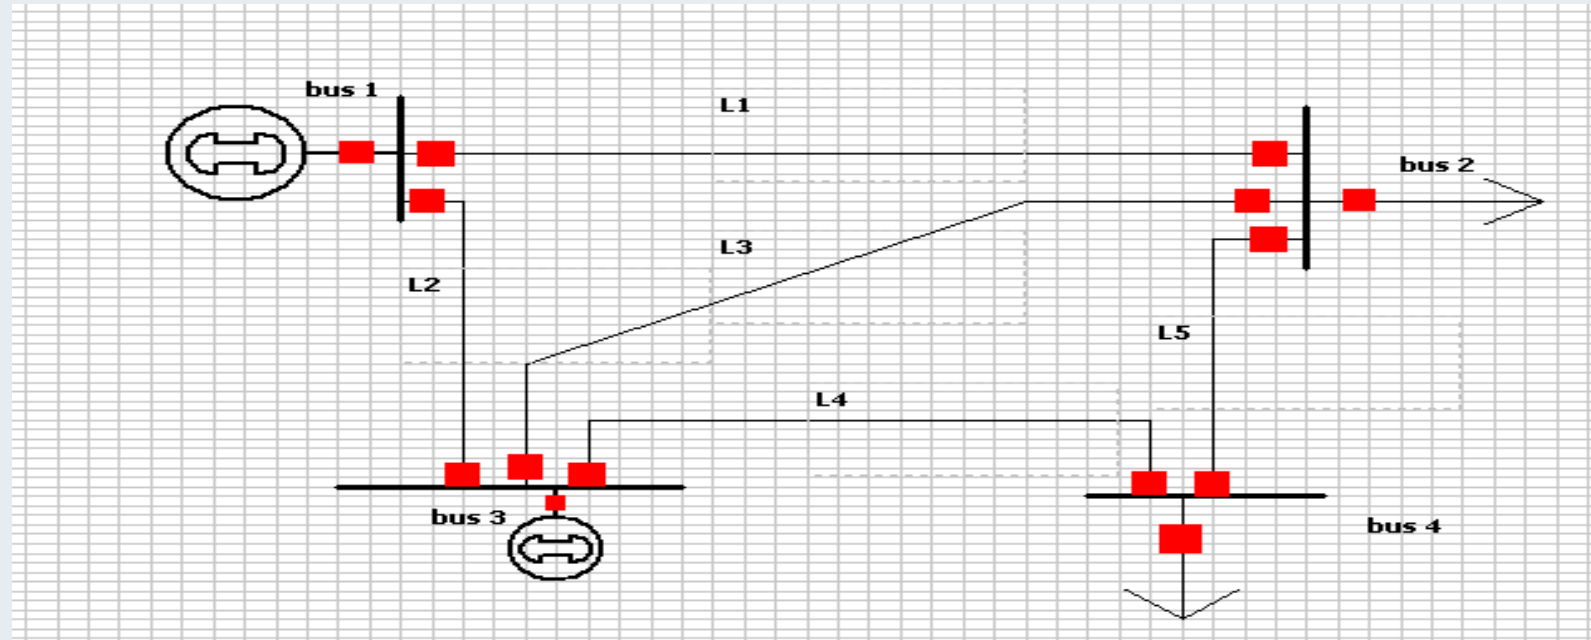

Figure 9. Single line representation of Five bus system
- Considering long transmission line and KCL at each node for Fig.9, the admittance is: